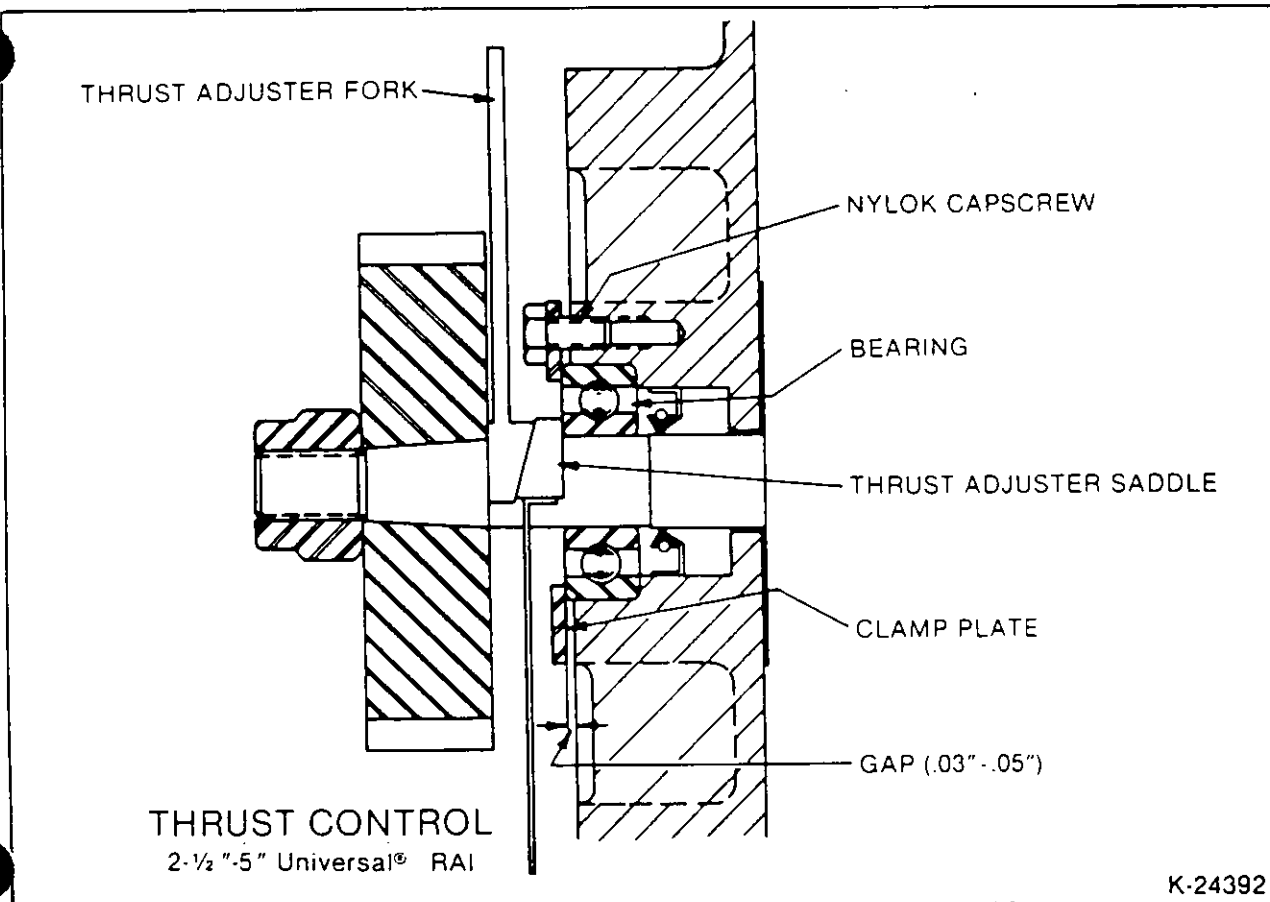
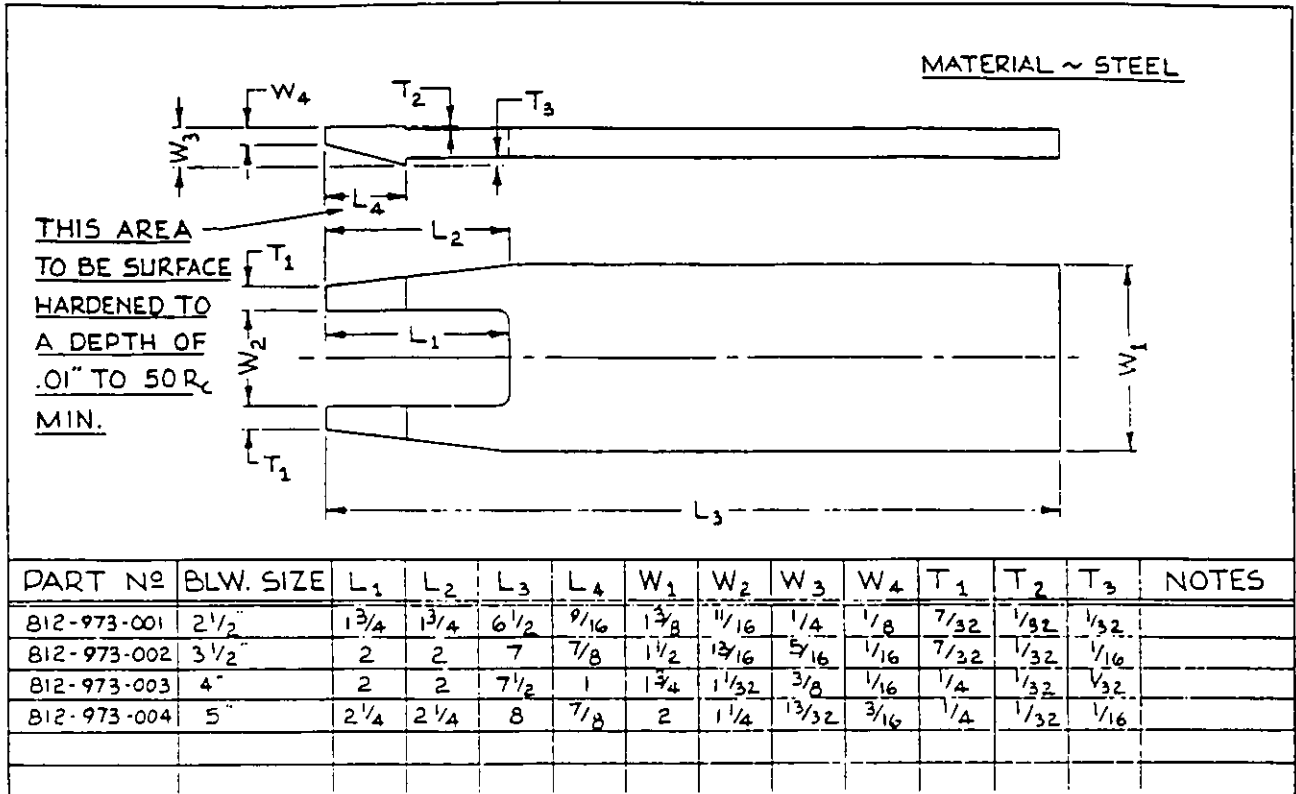
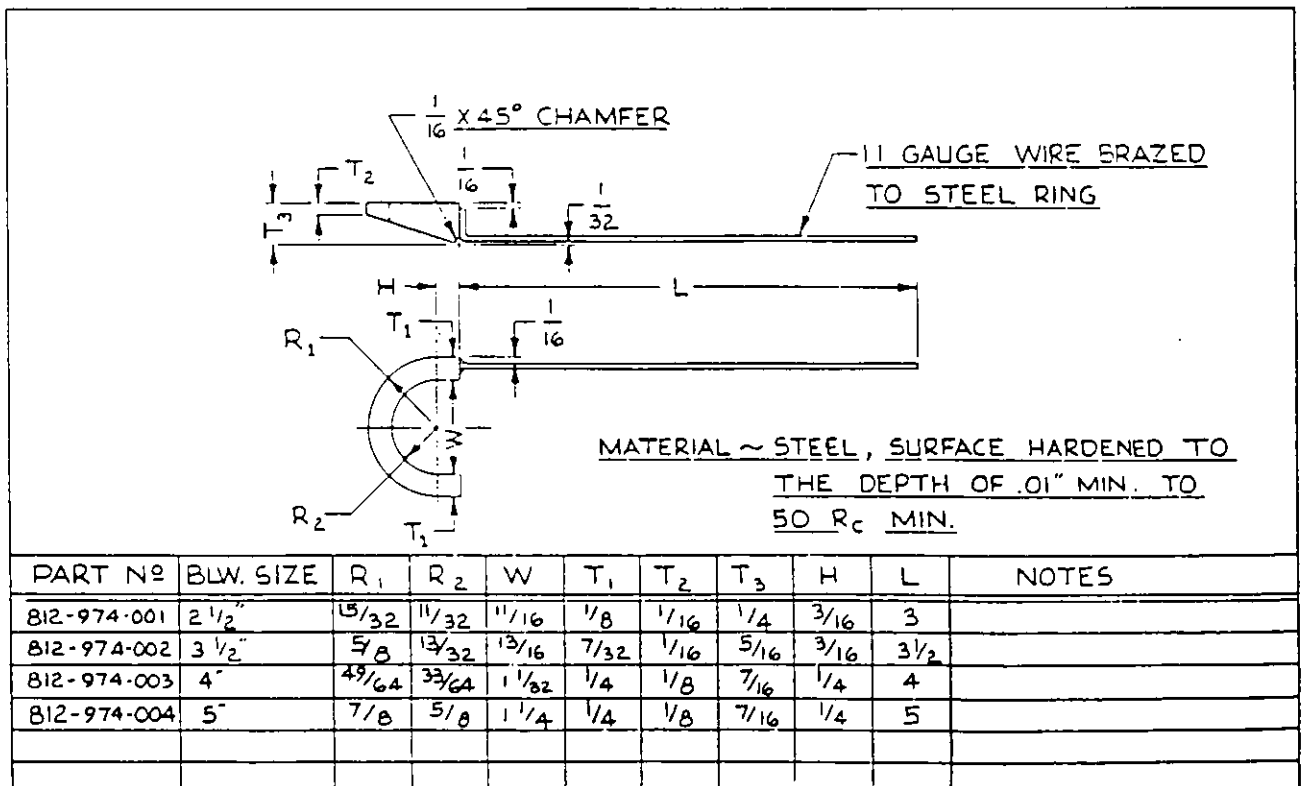

Figure 6 — Thrust Setting, 2½"-5" UNIVERSAL RAI®
Figure 7 — Thrust Adjuster Fork
Figure 8 — Thrust Adjuster Saddle
11. Place blower on its feet on a flat surface. Loosen feet capscrews (32) and square up unit. Re-tighten capscrews (32). Clamp unit down to a solid base for further assembly.
12. Oil the gear end bearing fits as described previously. Install 2¼-5" UNIVERSAL RAI® gear end bearings flush with the headplate bearing shoulders using proper drivers. On 6" & 7" UNIVERSAL RAI®, install thrust washer (29) in bearing bores then install gear end bearings so that they protrude ¼" (1.6mm) above headplate surface.
13. Install bearing clamp plates (34). On 6" & 7" UNIVERSAL RAI®, impeller end clearances are also to be set during this step. Install clamp plates (34) with capscrews (31) making sure that the gap between the clamp plates and the headplate is even all around, at the same time, set end clearances per Table 5.
14. Install gears and time impellers as in (A).
15. For setting end clearances on 2¼-5" gear diameter units, special tools, thrust adjuster fork Fig. 7 and thrust adjuster saddle Figure 8 are required. Refer to Fig. 6 for installation of tools. The flat side of the saddle rests against the bearing inner race and the flat side of the fork rests against the back side of the gear. Install a shim, with thickness equal to gear end clearance (Table 6), between the impeller and the gear end headplates. Tap on top of the fork until the shim becomes snug. Remove the shim and check end clearances. To increase gear end clearance, tap on the end of the gear end shaft with